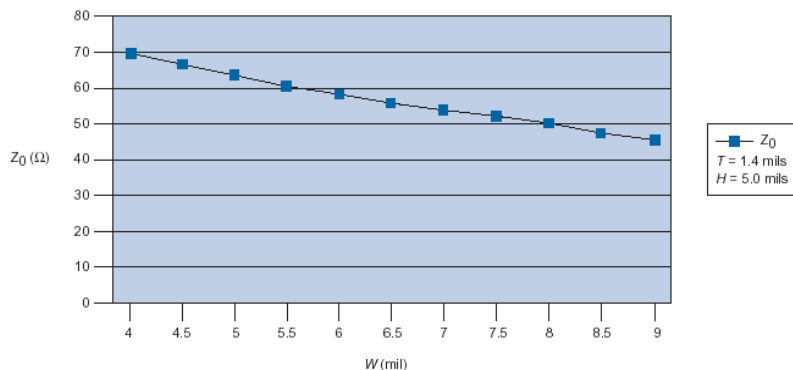
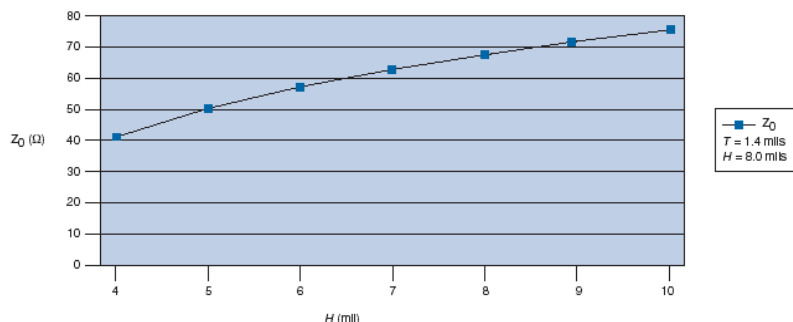
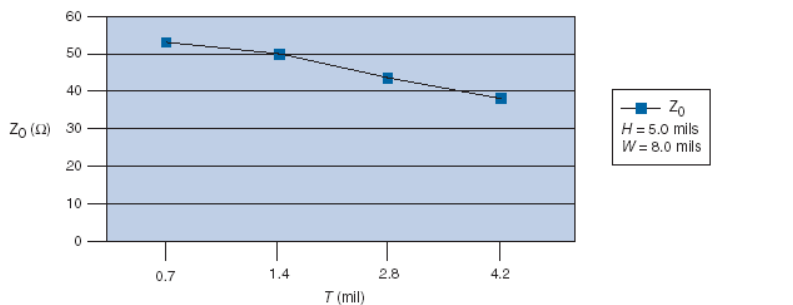

Figure 2. Microstrip Trace Impedance vs. Trace Width (W)
Figure 3. Microstrip Trace Impedance vs. Trace Height (H)
Figure 4. Impedance vs. Trace Thickness (T)
Using the typical values of W = 8 mil, H = 5 mil, T = 1.4 mil, ϵ_r and (FR-4) = 4.1 with and solving for microstrip impedance (Z) yields the results shown in Equation 4, Figure 2, Figure 3, and Figure 4. The measurement unit in Equation 3 is mils (i.e., 1 mil = 0.001 inches). The copper (Cu) trace thickness (T) is usually measured in ounces (i.e., 1 oz. = 1.4 mil).